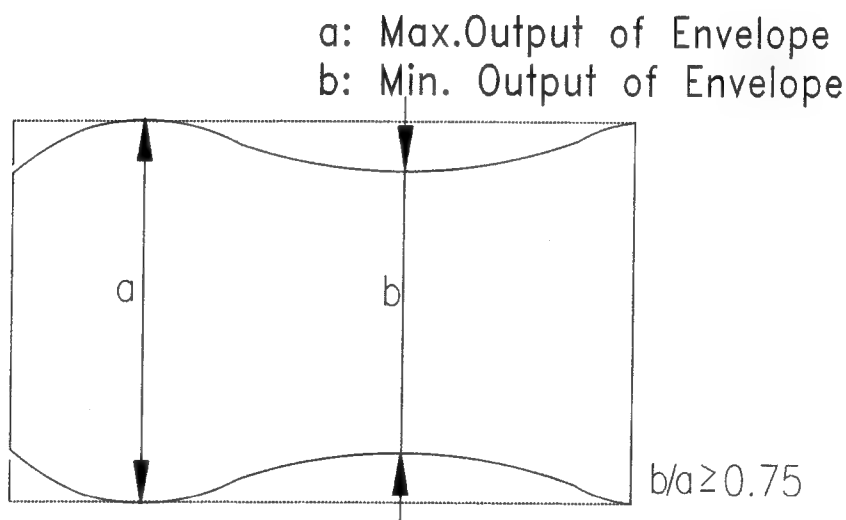

Fig. 5-7 LINEARITY ADJUSTMENT
- Adjust the S/T GUIDE ROLLER until the envelope signal waveforms of the entrance and the exit sides are as shown in Fig. 5-7.